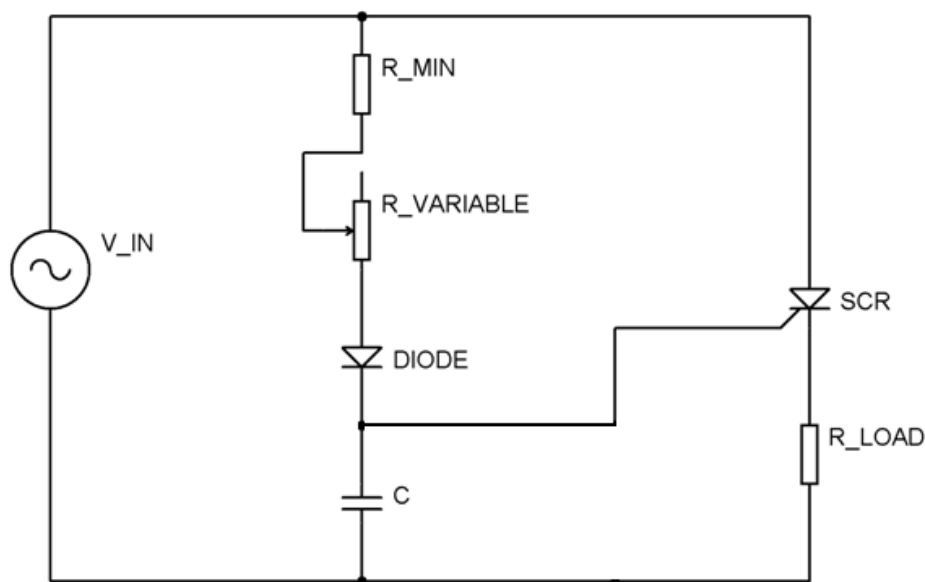

Figure 4. Half wave rectifier using RC-triggering
1. Arrange the circuit as shown in Figure 4.